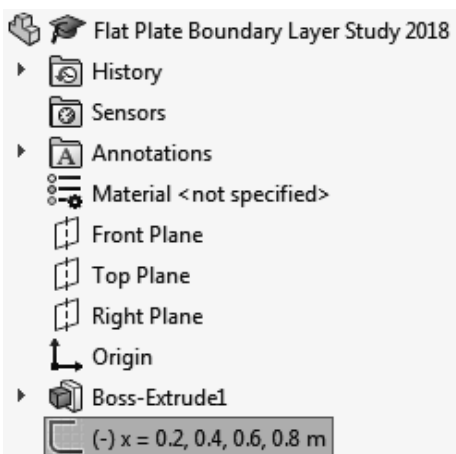

Figure 2.8 Renaming the sketch for boundary layer velocity profiles
- Repeat steps 6 and 7 three more times and add three more vertical lines to the sketch, the second line at  $X = 400$  mm with a length of 40 mm, the third line at  $X = 600$  mm with a length of 60 mm and the fourth line at  $X = 800$  mm with a length of 80 mm. These lines will be used to plot the boundary layer velocity profiles at different streamwise positions along the flat plate. Close the **Line Properties** dialog  and the **Insert Line** dialog. Save the SOLIDWORKS part with the following name: **Flat Plate Boundary Layer Study 2018**. Rename the newly created sketch in the **FeatureManager design tree**; see figure 2.8. You will need to left click twice to rename the sketch.